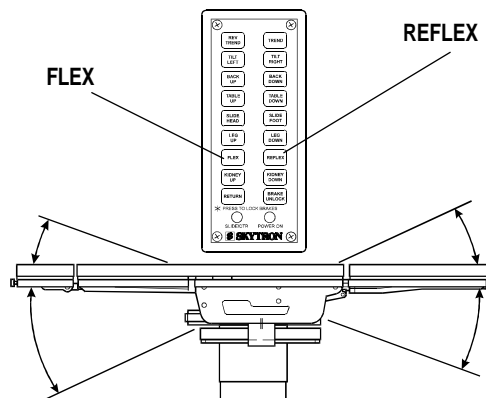

Figure 2-10. Flex/Reflex Positioning
h. Flex Positioning. To place the table top in a flex position from horizontal, press the FLEX button (figure 2-10). To return the table top to a horizontal position or into a reflex position, press the RETURN or REFLEX button.